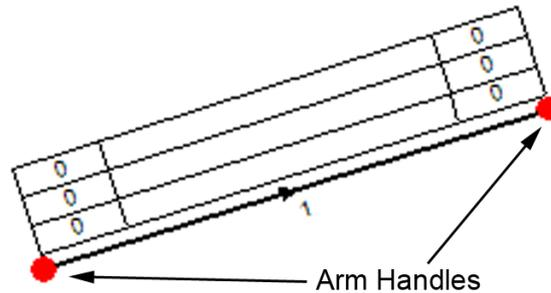

Figure 4.3: Arm Details
- The Arms in FlowRound are positioned using the Arm Handles as shown in Figure 4.3 below. The red handles indicate the Arm is the currently selected Arm. The